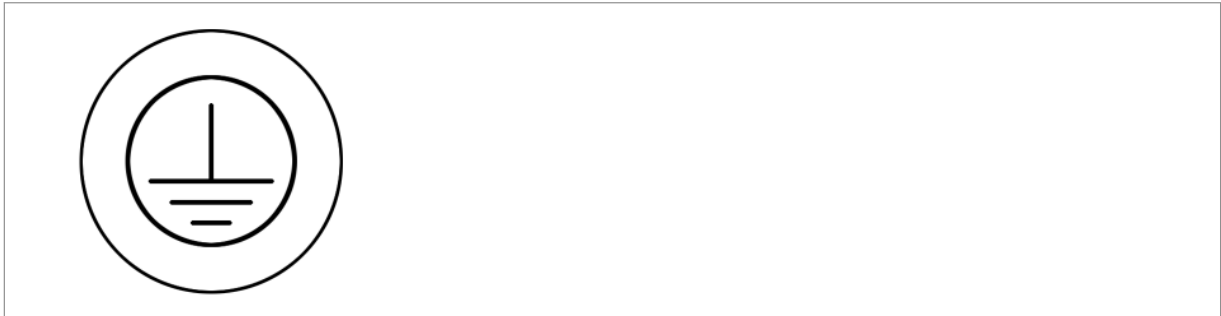

Fig. 23: Earthing symbol
- ➔ Earth the pump assembly at the connections provided for this purpose. The earthing connections are marked with the earthing symbol (Fig. 23).